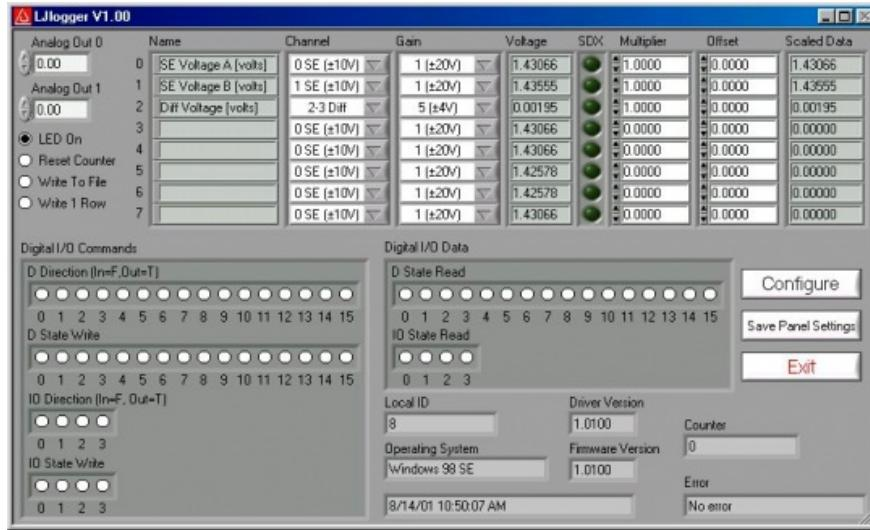
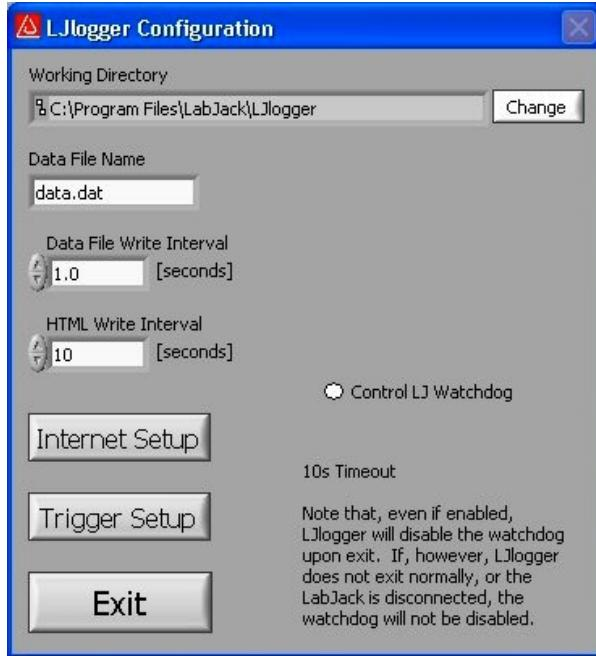
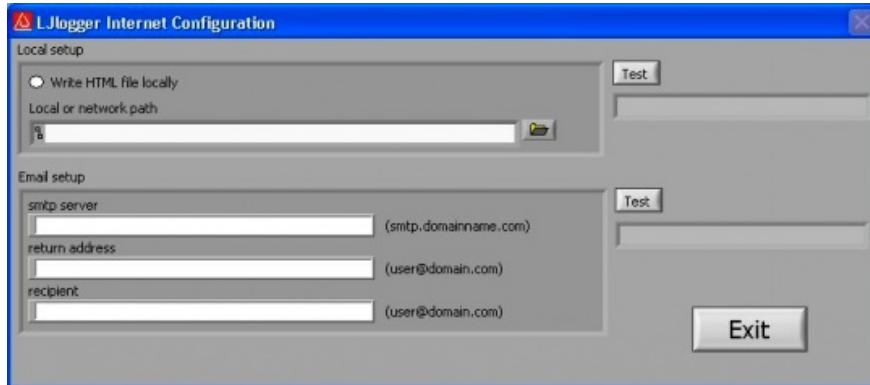

Figure 3.4-1. LJlogger
Figure 3.4-2. LJlogger Configuration
Figure 3.4-3. LJlogger Internet Configuration
The main window for LJlogger is shown in Figure 3.4-1. The white colored items and the “SDX” buttons are controls to be edited/selected by the user. The grey colored items are indicators which display various information about the LabJack. Clicking the button labeled “Save Panel Settings” will save the current values of the controls as the default values.
Clicking the “Configure” button shown in Figure 3.4-1 brings up the window shown in Figure 3.4-2:
Clicking on the “Internet Setup” button in Figure 3.4-2 brings up the Internet configuration window shown in Figure 3.4-3. Basic customization of the HTML file can be done by clicking on “AdvancedHTML Configuration” which brings up Figure 3.4-4.
Clicking on the “Trigger Setup” button in Figure 3.4-2 brings up the window shown in Figure 3.4-5.
- **Trigger #0:** If the scaled data from analog input row 7 (Figure 3.4-1) is greater than 5, then set AO1 to 5 volts. Once triggered, there is a 10 second delay before it can be triggered again.